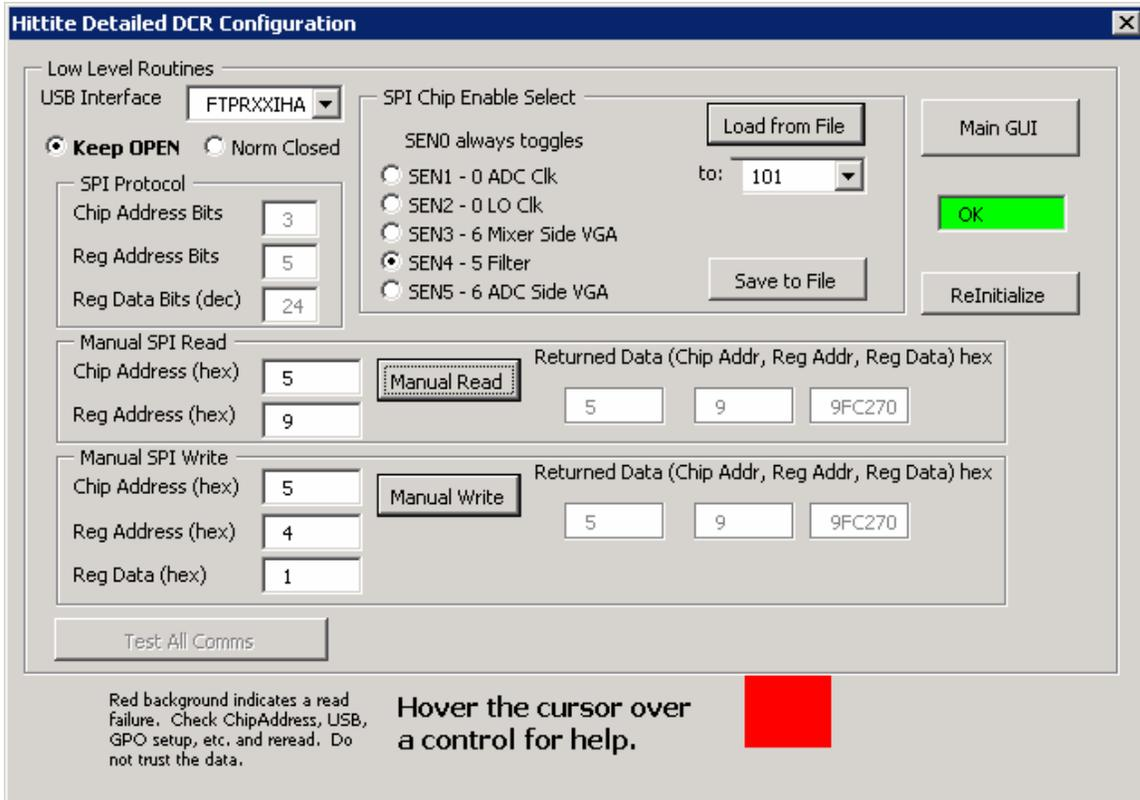

Figure 57. Read Reg09h (calibration result) of HMC900LP5E
4. Calculate $ctune = Cal_count$ (Figure 57)/10370000 = 10470000(9FC270h)/10370000 = 1.0964. If the desired frequency is 16 MHz (as an example) then normalized desired frequency is 16 MHz x $ctune = 17.5424$ MHz. Therefore, according to Table 9 in HMC900LP5E data sheet on page 16, the `coarse_bandwidth_code = 0101` for desired frequency of 16 MHz. Then according to the HMC900LP5E data sheet the fine tuning factor is $f_{BW_norm}/f_{nom} = 16\text{ MHz}/20\text{ MHz} = 0.8$. The fine bandwidth code can be observed from Table 10 of the HMC900LP5E data sheet on page 17 to be '0000'b.